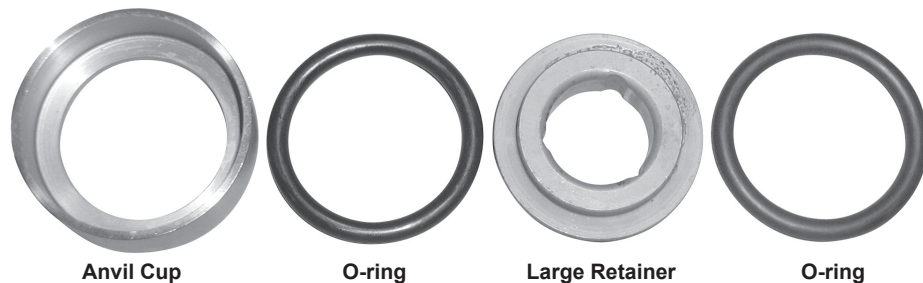

Fig. 16 - Insert O-ring into Anvil O-ring cup, then insert Large Retainer, followed by inserting the other O-ring.
Lubricate with Rhino® Pro Series Lubricant (p/n 300500) and assemble the large retainer and the two (2) large retainer o-ring seals in the order shown in **Fig. 16** and assemble into the anvil o-ring cup.